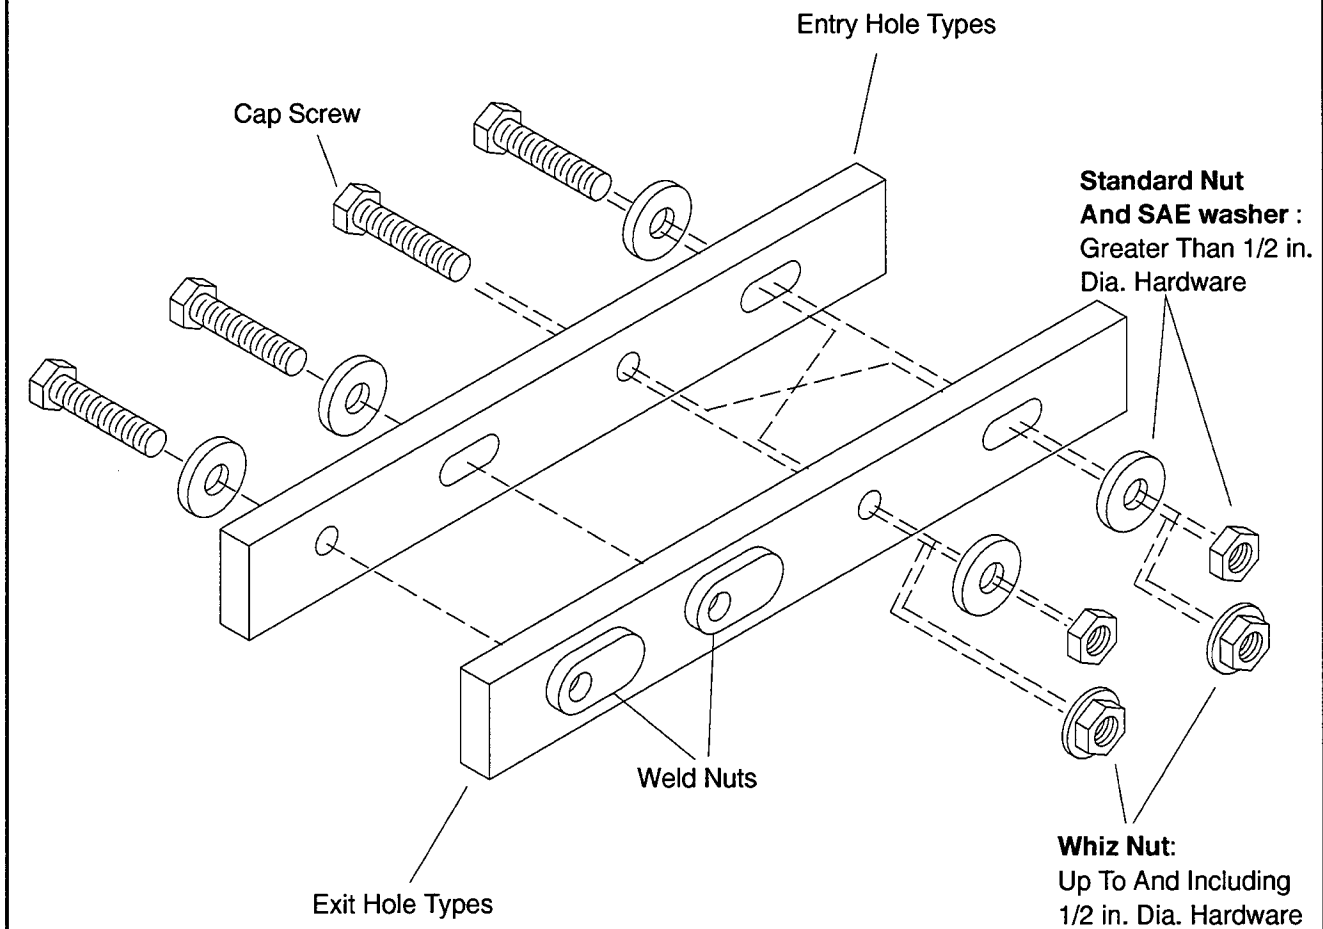

Figure 10-2. Acceptable Hardware Combinations
- **Common Hardware Entries:** When hardware size (diameter and threads per inch) is given but no indication of type of additional hardware is shown, use the illustration in Figure 10-2 as a guide.